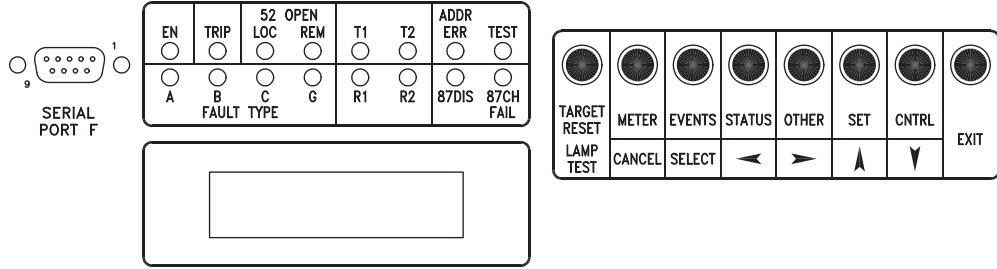

Figure 15 Status and Trip Target LEDs, Front-Panel Display, and Pushbuttons
*Figure 15* shows a close-up view of the user interface portion of the SEL-387L front panel. It includes a two-line, 16-character LCD, 16 LED status and target indicators, and eight pushbuttons for local access. *Table 1* explains the front-panel LEDs.